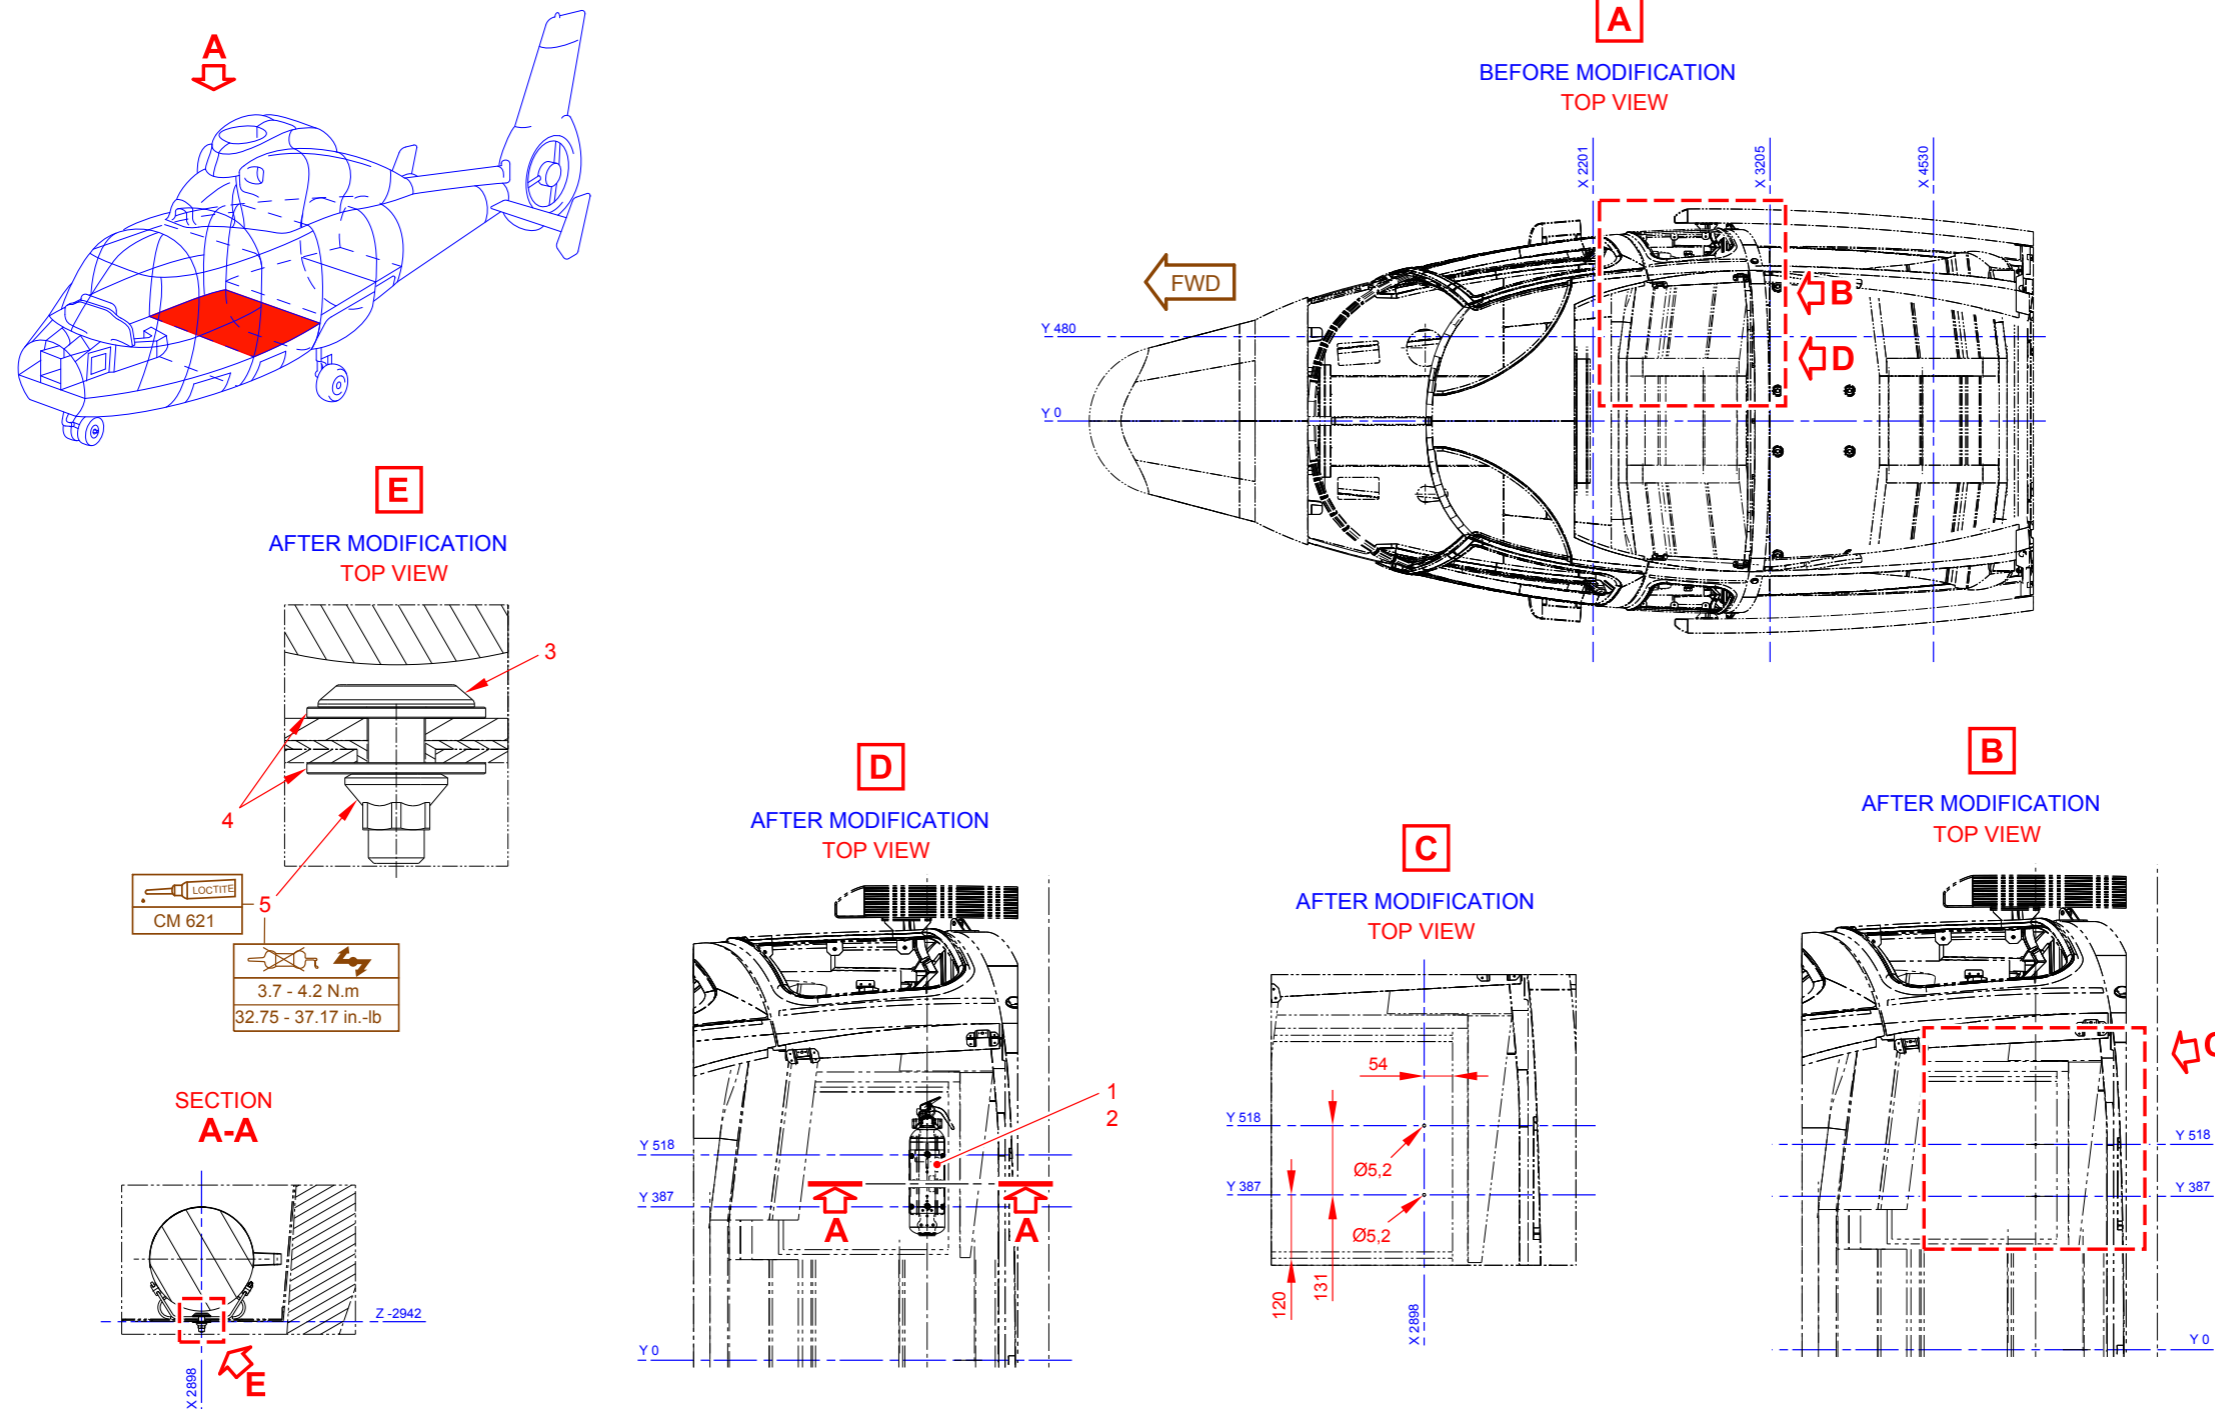

Figure 2
4.2. Procedure to install of the fire extinguisher and the bracket for S/N 6575, S/N 6594 and S/N6600. (Figure 2)
4.2.2. Drill two holes in the drawer, refer to Detail C of (Figure 2)
4.2.3. Install the HAND FIRE EXTINGUISHER BRACKET P3APP003020J (2), refer to Details D and E of (Figure 2) with:
- SCREW SIX LOBE RECESS ECS2365TK05S14X (3).
- WASHER 23116TK050X (4).
- SELF-LOCKING HEX NUT ASN52320BH050N (5).
- Apply torque in accordance with detail E of (Figure 2) .
4.2.4. Weigh the HAND FIRE-EXTINGUISHER BOTTLE P3APP003010D (1) , refer to Weighing of the cabin fire extinguisher POST MOD 0726B32 - Cabin Fire Extinguishing System MET 26-22-00-605.